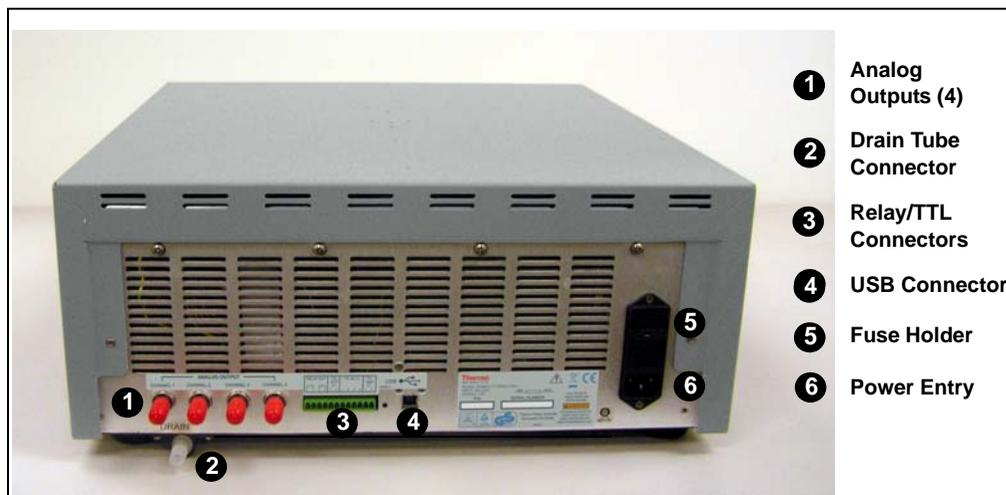

Figure 2-8. Dionex PDA Rear Panel
Figure 2-8 illustrates the rear panel of the Dionex PDA.
1. If you are starting the Thermo Scientific Dionex ICS Series Photodiode Array Detector (Dionex PDA) for the first time, press the main power switch on the rear panel (see Figure 2-8).